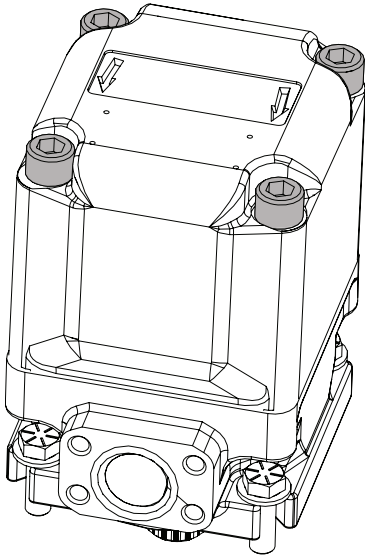

Figure 7
4. Loosen the four pump assembly bolts located on the rear of the housing (the end facing up from the work bench/vise) (Figure 7).